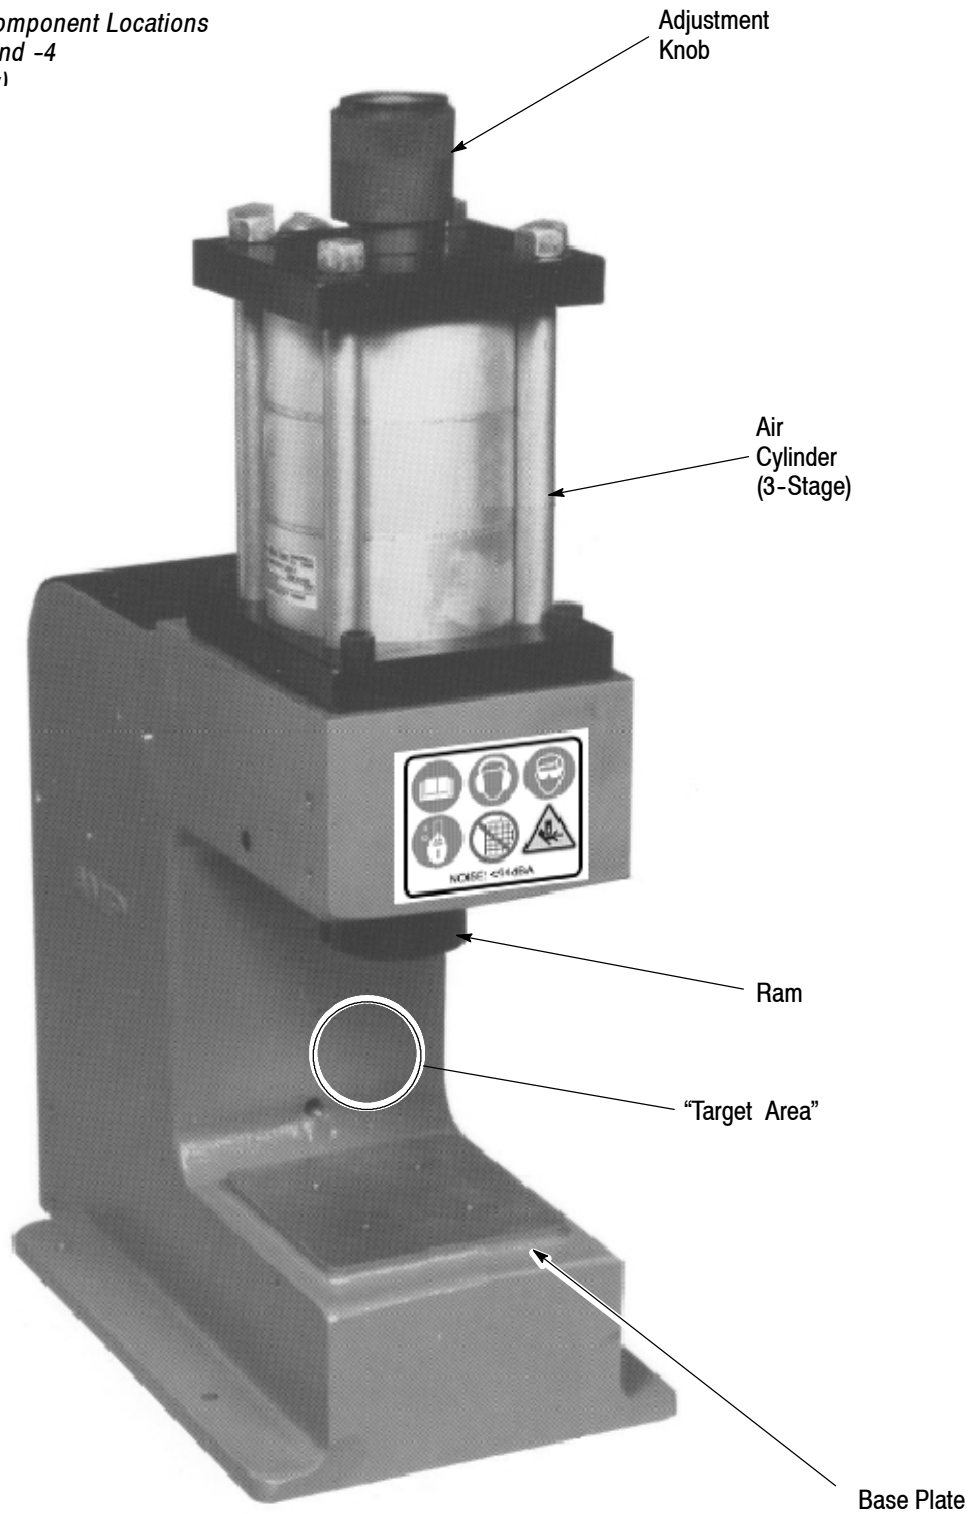

Figure 3
2.1. Physical Description (Figure 3)
The stroke/shut-height adjustment knob (for machines 312522-1, -2, and -3) is used to adjust the shut-height from 0 to 12.7 mm [.50 in.] above the minimum shut-height of the power unit. The adjustment knob is located on top of the air cylinder. Refer to Figure 3.